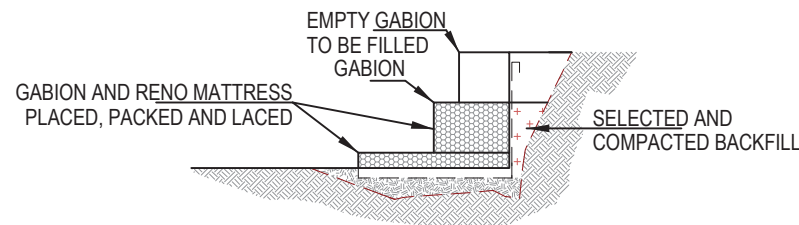

FIGURE 11
1. COMPACTION OF THE BACKFILL MUST BE DONE SIMULTANEOUSLY WITH EVERY ROW OF GABIONS LAID IN MAXIMUM 200mm LAYERS (FIGURE 11). CARE MUST BE TAKEN NOT TO DAMAGE THE GEOTEXTILE DURING PLACING AND COMPACTION OF THE BACKFILL. ONLY SMALL HAND HELD COMPACTION EQUIPMENT MAY BE USED ADJACENT TO THE GABION BASKET UP TO A DISTANCE OF 1m.